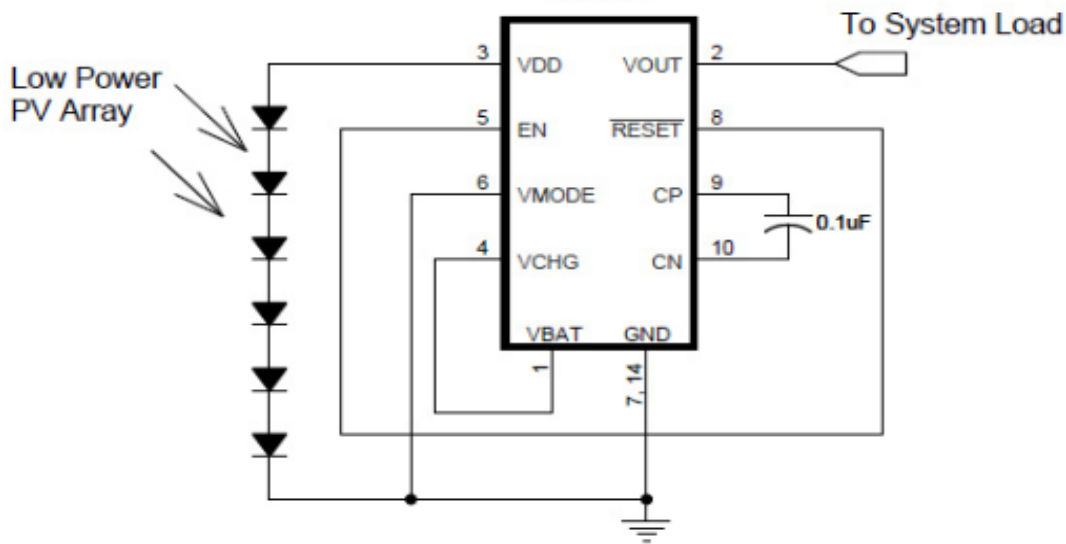

Figure 13: Implementing Energy Harvesting with the EnerChip™ CC
The EnerChip™ CC can be configured to collect energy from transducers such as low power photovoltaic (PV) cells and use that harvested energy to charge the integrated EnerChip™ and deliver self-sustaining power to components such as microcontrollers, sensors, and radios in wireless systems. The schematic of Figure 13 illustrates the feedback connection made from RESET to EN to implement the energy harvesting function with the CCBC3150. In order to make most efficient use of the power available from the transducer (for example, a PV cell), it is necessary to know the electrical characteristics including voltage and peak power point of the transducer being used. For assistance in designing your system to effectively harvest energy from a power transducer in a specific environment, contact Cardinal Components, Inc.